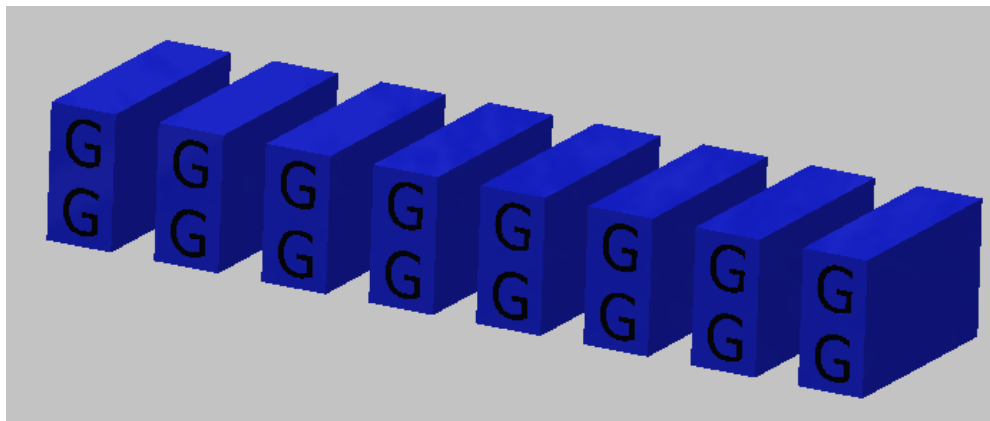

Figure 10: Shipping containers in zone A (same size, same color, no QR code)\*
**Zone A** will have sixteen shipping containers of the same size, same color (blue). They are 1.5 in x 1.5 in x 5 in. They do not have QR code attached to them. They are actually the same as blue shipping containers in zone C, just without QR code glued on to them. See Figure 10.